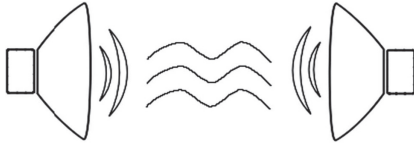

Figure P6.37 Noise-canceling headphones.
- 6-37.** A pair of noise-canceling headphones creates sinusoidal responses with which to cancel out ambient noise signals, as shown in Fig P6.37. During calibration, a noise signal is measured as $N(t) = 75 \cos(4000\pi t)$ decibels (dBA). The calibration signal produced by the noise canceling software is $C(t) = 75 \sin(4000\pi t - \frac{\pi}{3})$ dBA.